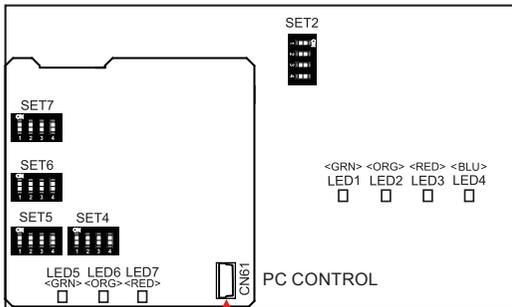

Fig 2. PCB Layout
- 3** Connect miniUSB (Type B) to the mini USB connector (CN61) on the PCB in the case. (Fig.2)